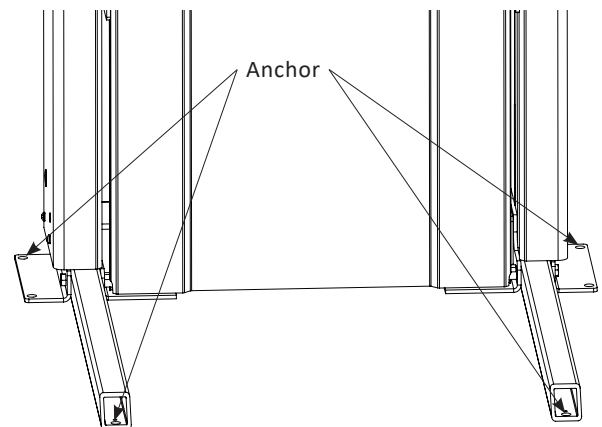

Figure 4-16
Install two (2) anchors at the back of the tower and two (2) anchors into the tower legs. *See figure 4-16.*